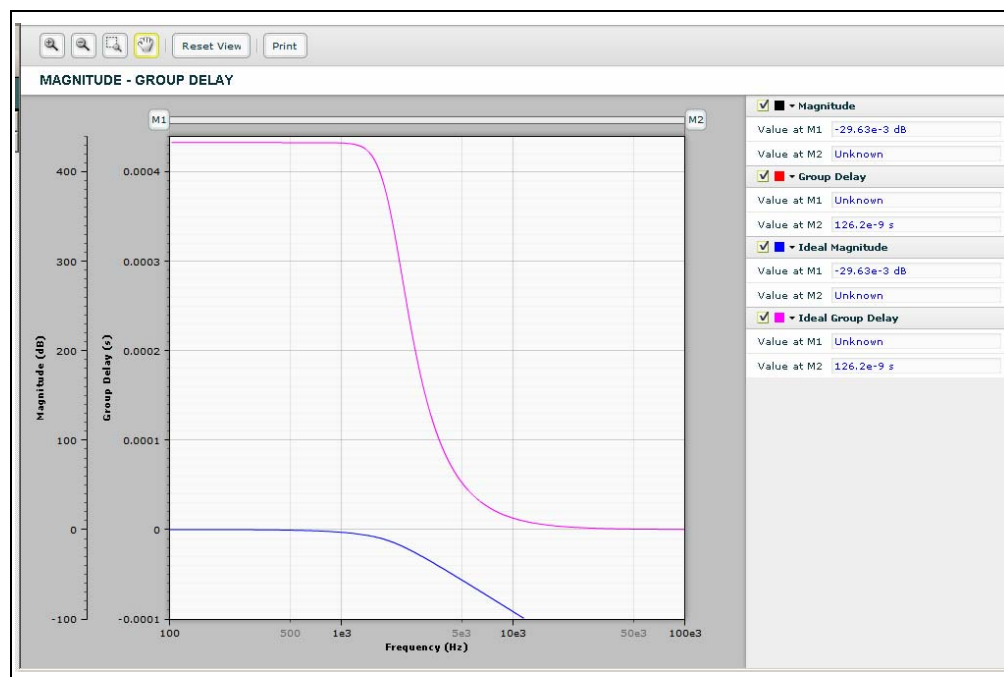

FIGURE B-5: Magnitude - Group Response with Bessel Approximation.
- Maximally flat group delay or linear phase response (Figure B-5)
The magnitude - phase response of the 6th order Low-pass filters with Bessel approximation is shown in Figure B-5.